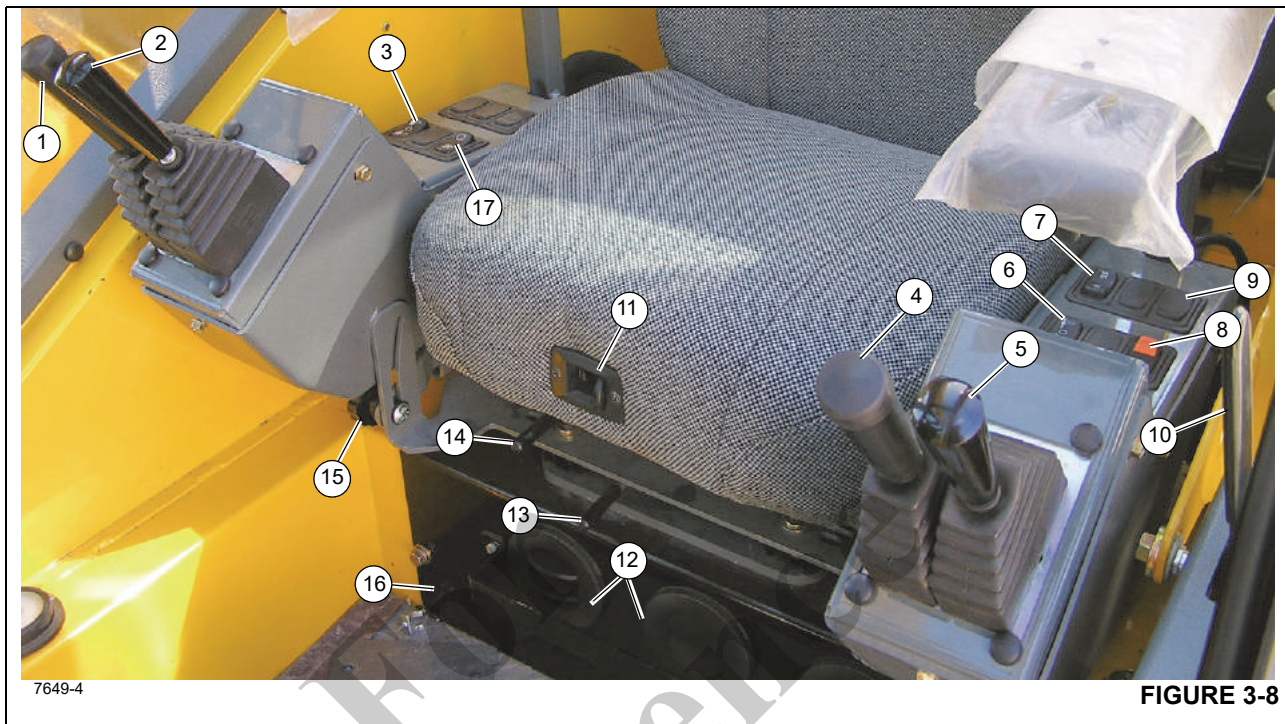

Figure 3-8 Item Numbers
The Axle Differential Locked Indicator (22) (Figure 3-6) is located in the steering column gauge display. This indicator illuminates amber after the Differential Lock Switch (10) (Figure 3-8) is pressed to the LOCK position and the carrier differential lock switches located on each axle are closed. When in the LOCK position there is no differential action between the wheels.
The Main Hoist Joystick(1) (Figure 3-8) is located on the right armrest. The joystick, when pushed forward, lowers the cable; when pulled back, it raises the cable.
The Boom Lift Joystick (2) (Figure 3-8) is located on the right armrest. The joystick, when pushed forward, lowers the boom; when pulled back, it raises the boom.
The Main Hoist Speed Selector Switch (3) (Figure 3-8) is a three positioned maintained switch (High/Off/Low) that is located on the right armrest. Positioning the switch to high position allows main hoist functions and energizes the Main Hoist High Speed Solenoid, resulting in high line speeds. Positioning the switch to the center off position will prevent hoisting. Positioning the switch to the low position allows
The Telescope or Auxiliary Hoist (TELE or AUX) Joystick (4) (Figure 3-8) is located on the left armrest. The joystick controls the telescope functions when the crane is not equipped with an auxiliary hoist. Push the joystick forward to telescope the boom out, or pull the joystick back to telescope boom in.
The Swing Joystick (5) (Figure 3-8) is located on the right armrest and controls the swing function. The joystick, when pushed forward rotates the turntable clockwise; when pulled back, it rotates the turntable counterclockwise. The crane is capable of 360 degree continuous rotation in either direction.
The Auxiliary Hoist Speed Selector Switch (6) (Figure 3-8) is a three positioned maintained switch (High/Off/Low) that is located on the left armrest. Positioning the switch to high position allows auxiliary hoist functions and energizes the Auxiliary Hoist High Speed Solenoid, resulting in high line speeds. Positioning the switch to the center off position will prevent hoisting. Positioning the switch to the low position allows auxiliary hoist functions and de-energizes the Auxiliary Hoist High Speed Solenoid, resulting in low line speeds.
The Rear Steer Control Switch (7) (Figure 3-8) is a three-position, spring centered to off, rocker switch, located on the left armrest. Press the bottom of the switch to actuate a control valve to turn the rear wheels to the left, causing the crane to turn to the right. Press the top of the switch actuates a control valve to turn the rear wheels to the right, causing the crane to turn to the left. When the wheels are not centered the Rear Wheels Not Centered light on the steering column illuminates. Releasing the switch causes it to return to the center off position.
The Swing Brake Control Switch (8) (Figure 3-8) is located on the left arm rest. This two-position rocker switch (ON/OFF) is used to control a hydraulic valve that directs a regulated flow of pressure to and from the swing brake. Positioning the switch to ON will apply the swing brake and positioning the switch to OFF will release the swing brake. When the switch is in the ON position, the red indicator light on the steering column is illuminated. The switch has a lock to prevent accidental activation.
The Differential Lock (Axle Diff) Control Switch (9) (Figure 3-8) is located on the left arm rest. It is a two position, momentary rocker switch placarded LOCK and UNLOCK. When positioned to LOCK, the splines on the shift collar are engaged with the splines on the differential case and the axle shafts and the differential assembly are locked together and there is no differential action between the wheels. When positioned to UNLOCK, there is normal differential action between the wheels all the time. The amber indicator on the steering column is illuminated when the switch in each axle is activated.
Use the Cab Door Release Lever (10) (Figure 3-8) to open and close the cab door from inside the cab.
To adjust the back of the seat press the adjustment knob (11) (Figure 3-8) and then adjust the seat as needed.
The crane cab Air Conditioner/Heater Climate Control unit (16) (Figure 3-8) is located in the cab under the driver's seat. The vents (12) are part of the climate control unit and can be adjusted to direct the flow of air.
Moving the Seat Slide Lever (13) (Figure 3-8) will slide the seat only, either forward or backward.
Moving the Seat Frame Slide Lever (14) (Figure 3-8) will slide the seat and the seat frame either forward or backward.
The Armrest and armrest controls can be adjusted using adjustment knob (15) (Figure 3-8). Loosen the knob and rotate the entire armrest to the desired position, retighten the knob when finished making the adjustment.
The Hoist Rotation Indicators for the auxiliary and main hoist is located on top of each hoist control lever (1,4) (Figure 3-8). Each indicator is electronically driven by an input signal from a sensor attached to its related hoist and an output signal from a control module. Each hoist control lever (1,4) pulses when its hoist is running so the operator's thumb can sense it.
The Hydraulic Boost Switch (17) (Figure 3-8) is located on the right armrest. This two position switch is used to control the High Speed Boost Selector Valve. With the switch in the ON position, the solenoid valve is energized. In this state, the solenoid valve stops the flow of oil from Pump No. 1, Section 2 to the Rear Steer/Outrigger Valve. The poppet check valve opens to combine this flow of oil with the output from Pump No. 1, Section 1.